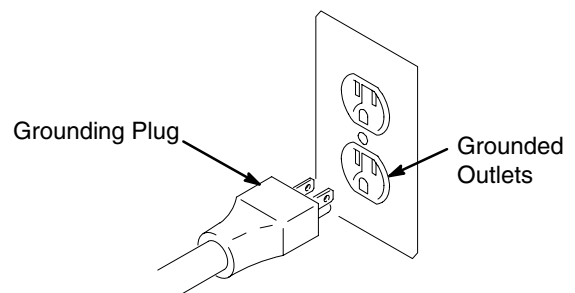

Fig. 2
1. Ultimate Mx II 695, 795 and 1095 100–120 Vac models require a 50/60 Hz, 15A circuit with a grounding receptacle. Ultimate Mx II 1595 120 Vac models require a 50/60 Hz 20A circuit with a grounding receptacle; 220–240 Vac models require a 50/60 Hz, 10A circuit with a grounding receptacle. See Fig. 2.